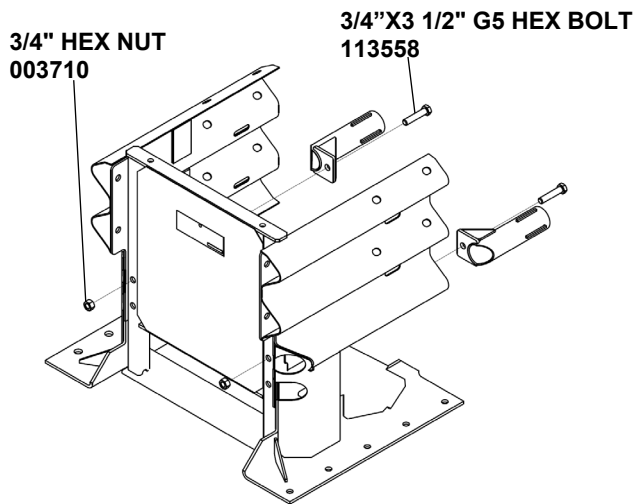

Figure 15
- b. Bolt the Rear Shaper to the Backup Frame and hand tighten nuts (Figure 15).